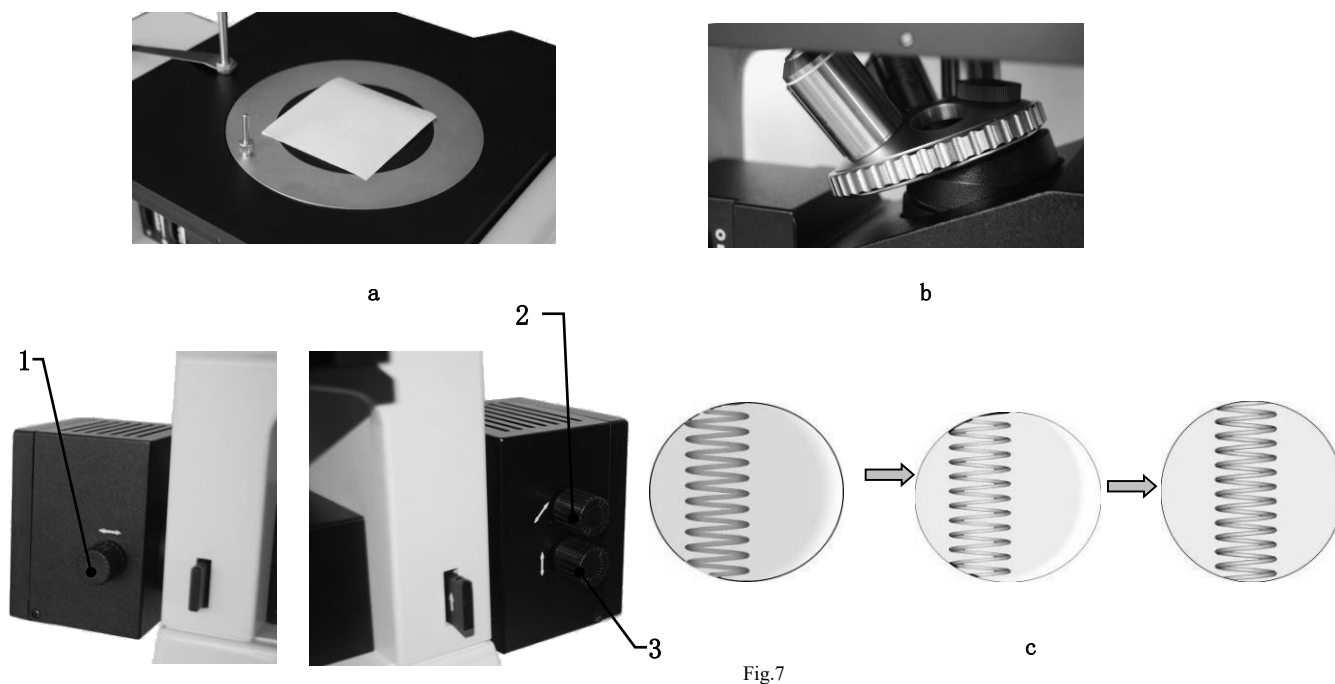

Fig.7
- (1) Prepare a piece of white paper (about 40mmX50mm) and place it on the stage, as shown in Fig. 7-a.
- (2) Take out a objective and turn the nosepiece to make the through-hole into optical path, as shown in Fig.7-b.
- (3) Open the field diaphragm and aperture diaphragm. At this point, a bright light spot will be shown on the white paper, with a filament image inside, as shown in Fig.7-c.
- (4) If the filament image is unclear, adjust the collector lens to make clear by adjusting knob 1.
- (5) If the filament image deviates from the center of the bright light spot, as shown in Fig.7-d, the bulb center should be adjusted, adjust the lamp transverse adjustment knob 2 and vertical adjustment knob 3 to calibrate bulb center.